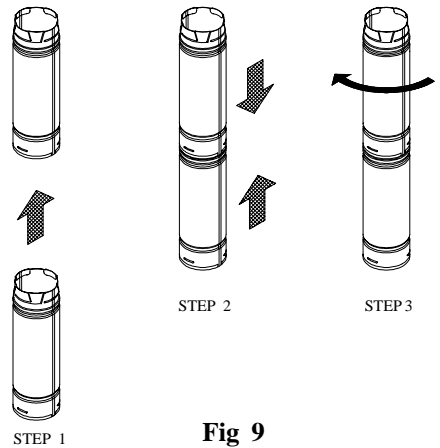

Fig 9
5. Pipe Assembly. Sections of Simpson Dura-Vent round pipe are joined together by lining up the female end of the locking lug with the male end slot, pushing them together, and turning clockwise to twist lock. Refer to **Figure 9**. Sheet metal screws are not needed for 3" through